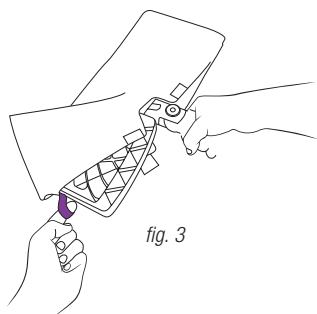

fig. 3
- 3 Use the lavender loop on the side of the cleaning pocket to slide the mop head into the pocket. Then secure the quick fasteners on the top of the pocket to lock in place. **(fig. 3)**